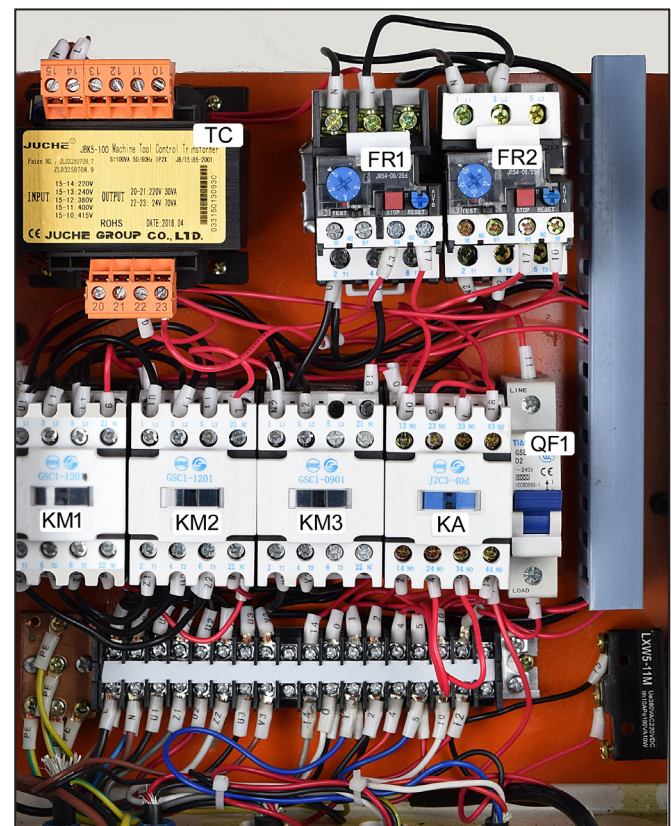

Figure 1-6 Electrical box inputs/outputs
If the lathe did not come with a pre-installed power cord, connect to the power source using 12 AWG (minimum) 3-wire cord through a strain relief bushing sized for the electrical box ports. Depending on installed options and other factors, the entry point shown in Figure 1-6 may not be available. Connect the ground wire (PE) to the grounding plate at bottom left. Connect L1, L2 to the left-most two terminals on the bottom terminal strip (the wires may be marked L, N instead of L1, L2).